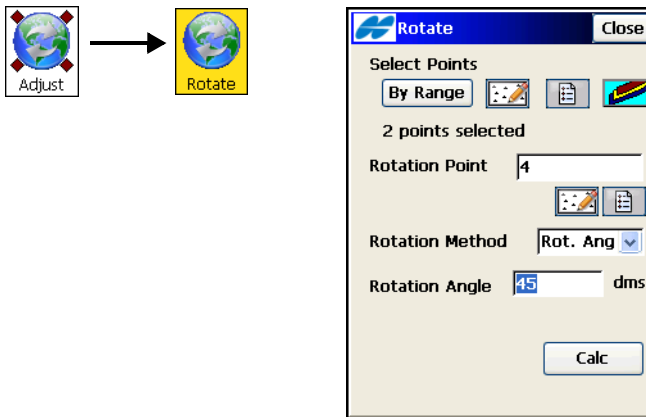

Figure 10-21. Rotate
- Select the points for the task. In the *Select Points* field, tap the **By Range** button and enter (set) the range of the point names, or select points for the scaling task on the map or from the list (Figure 10-21).